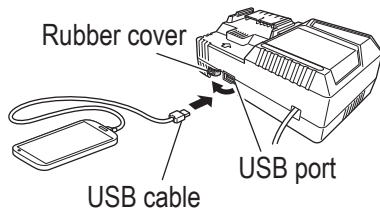

Fig. 23
2. Connect the USB cable. (Fig. 23)